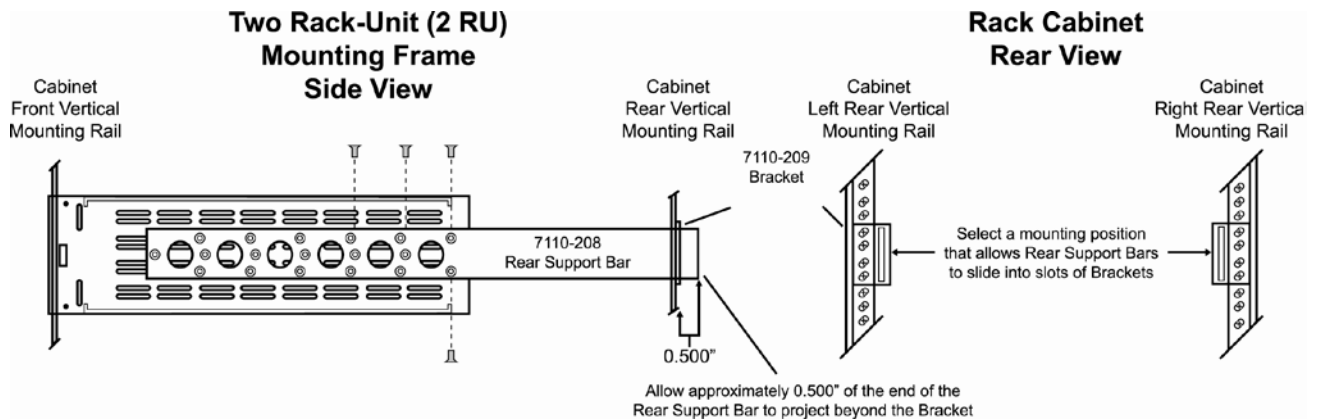

Figure 2.1 Rear Support Bars and Brackets Diagram
The rear support bars can be attached to the openGear frame in six possible positions; refer to **Figure 2.1**.
2. Install a Rear Support Bars to each side of the Frame using the supplied screws in the four locations as shown in **Figure 2.1**.